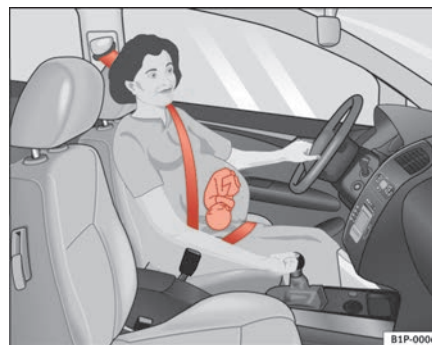

Fig. 14 Positioning seat belts during pregnancy
- Holding the latch plate, pull the belt evenly across your chest and as low as possible over the pelvis ⇒ fig. 14.